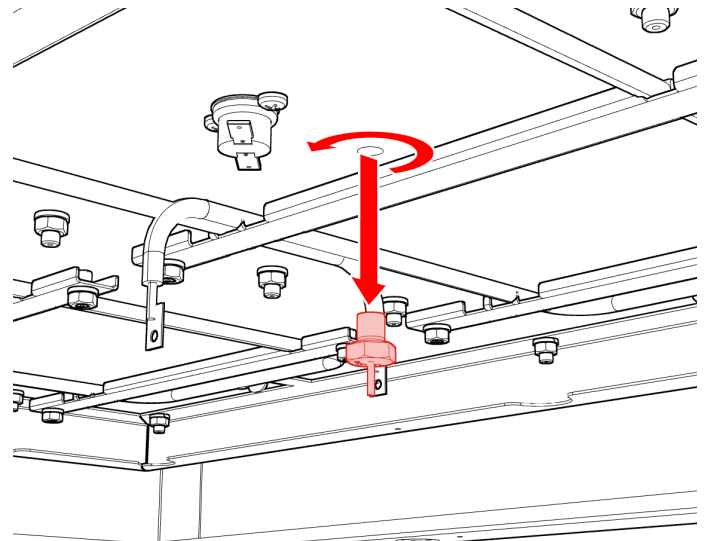

Fig. 12
4. For EACH temperature sensor, unscrew sensor from bottom of dry well (Fig. 12).